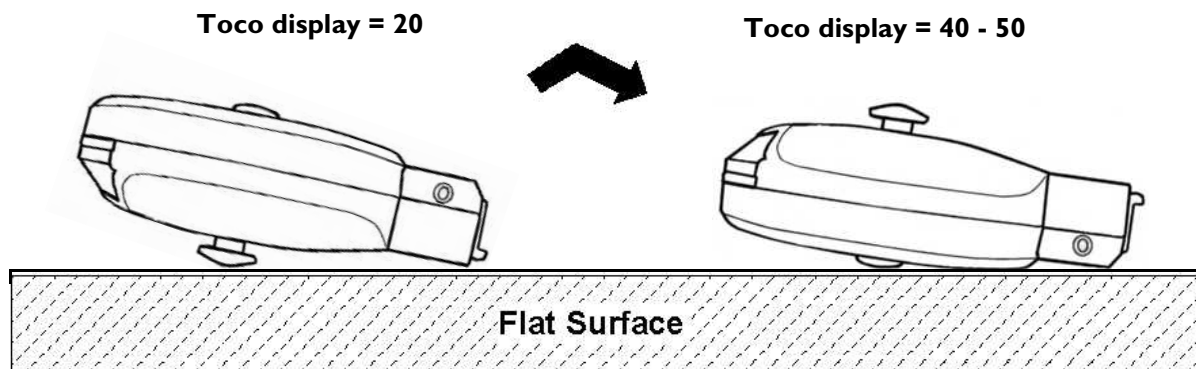

Figure 7 Checking a Toco Transducer
- 3 Lay the transducer face up on a hard, flat surface for a few seconds, so that the belt button and the take-out aid end of the transducer make contact with the surface (see Figure 7 on page 69).
- 5 Turn the transducer over so that the Toco sensor is resting on the flat surface. The transducer will always adopt the same, slightly inclined position, with the take-out aid end of the transducer also resting on the surface (see Figure 7).